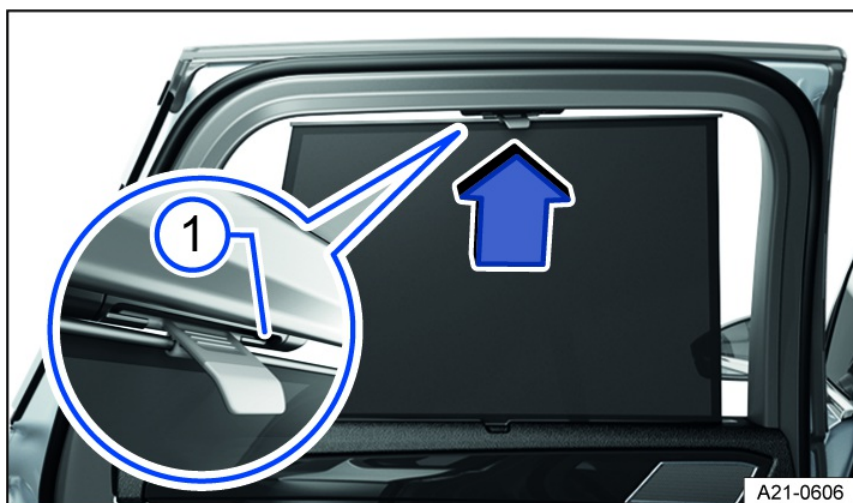

Fig. 104 In the right window: Sunshade.
1. Pull the sunshade all the way upward by the handle in the direction of the arrow *fig. 104*.
2. Secure the rod with both eyelets in its holder *fig. 104*.